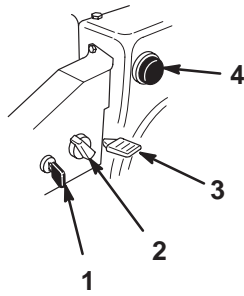

Figure 14
- **Ignition Switch** (Fig. 14)—Insert the key before starting the engine. To stop the engine, remove the key.
- **Choke** (Fig. 14)—Rotate the choke to the *On* position to start a cold engine. As engine warms up, gradually rotate the choke counterclockwise to the *Off* position.
- **Throttle** (Fig. 14)—Move the throttle upward to increase the engine speed; move it downward to decrease the engine speed. Move the throttle to the *Stop* position to stop the engine.
- **Primer** (Fig. 14)—Press the primer to pump a small amount of gasoline into the engine for improved cold-weather starting.
2. Remove the key from the ignition switch (Fig. 14).
3. Pull the choke knob off (Fig. 14).
- Rotate the choke (Fig. 14) to the *On* position.
- Insert the ignition key (Fig. 14).
- Cover the hole in the center of the primer (Fig. 14) with your thumb and slowly push in the primer three times, pausing a moment between pushes.
- After the engine starts, immediately rotate the choke (Fig. 14) to the $3/4$ position. As the engine warms up, rotate the choke to the $1/2$ position. When the engine warms up sufficiently, rotate the choke to the *Off* position.